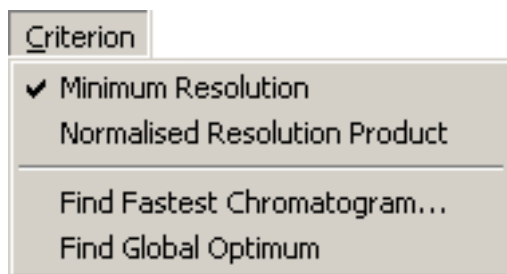
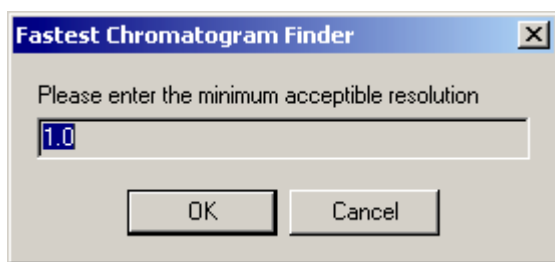

Figure 8. Criterion menu.
Figure 9. Fastest Chromatogram Finder dialog box.
- Position the cursor over the 'Criterion' menu on the menu bar, left click once. A menu should appear (Figure 8). Position the cursor over the 'Find Fastest Chromatogram...' menu, left click once. A 'Fastest Chromatogram Finder' dialog box should appear (Figure 9).
- Left click on the 'Criterion' menu. There should be a tick next to 'Minimum Resolution', as in Figure 8. Left click on 'Normalised Resolution Product'. After completing the calculations, the Resolution Response Surface contour plot should change to a new response surface. The optimum eluent conditions should now be 7.84 mM, 73.6 % with a resolution criterion of 0.473.